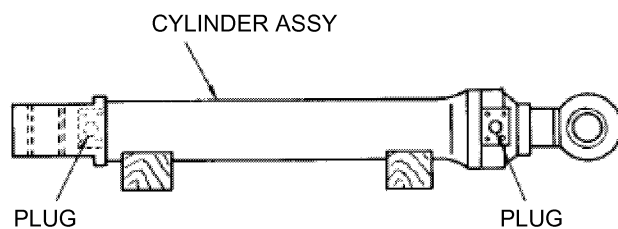

Fig. 1-38 How to store the cylinder
- 2) After completing the test, apply a plug to each port and store it (Fig. 1-38).